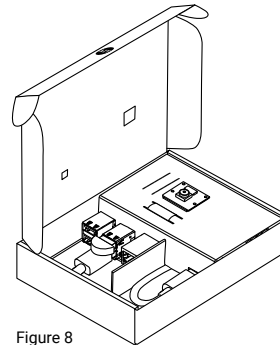

Figure 8
- 21 Close the internal frame by interlocking the two slots labeled X, and it should appear as shown in figure 8.